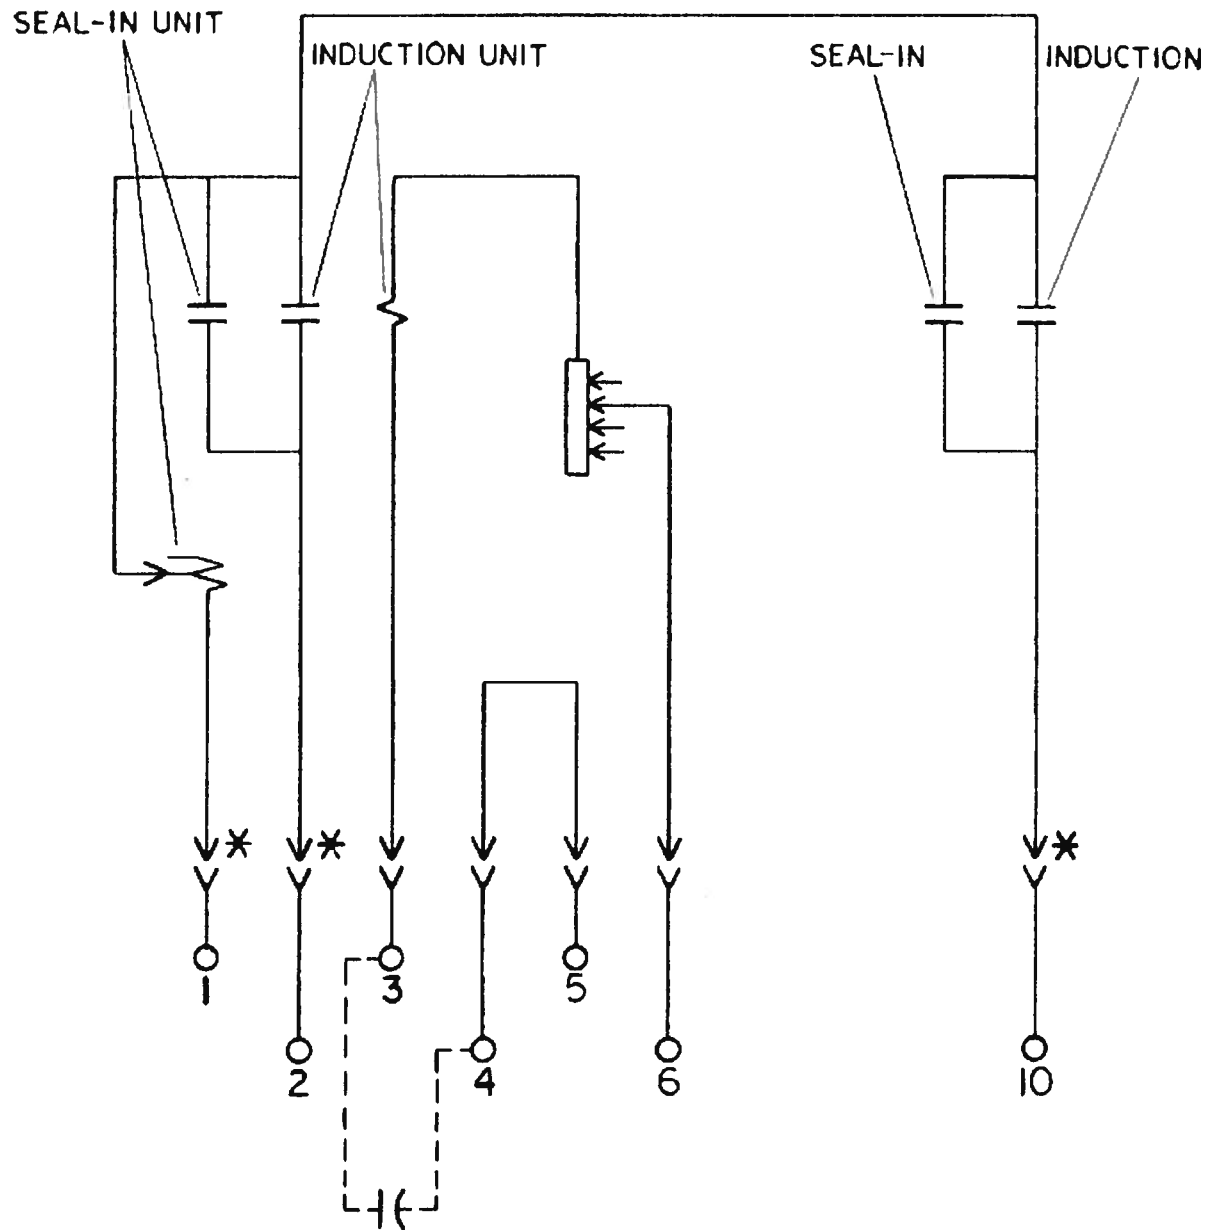

FIG. 7 (0257A8379-0) INTERNAL CONNECTIONS OF THE TYPEIAV52K RELAY, FRONT VIEW
- FIG. 7 (0257A8379-0) INTERNAL CONNECTIONS OF THE TYPE IAV52K RELAY, FRONT VIEW